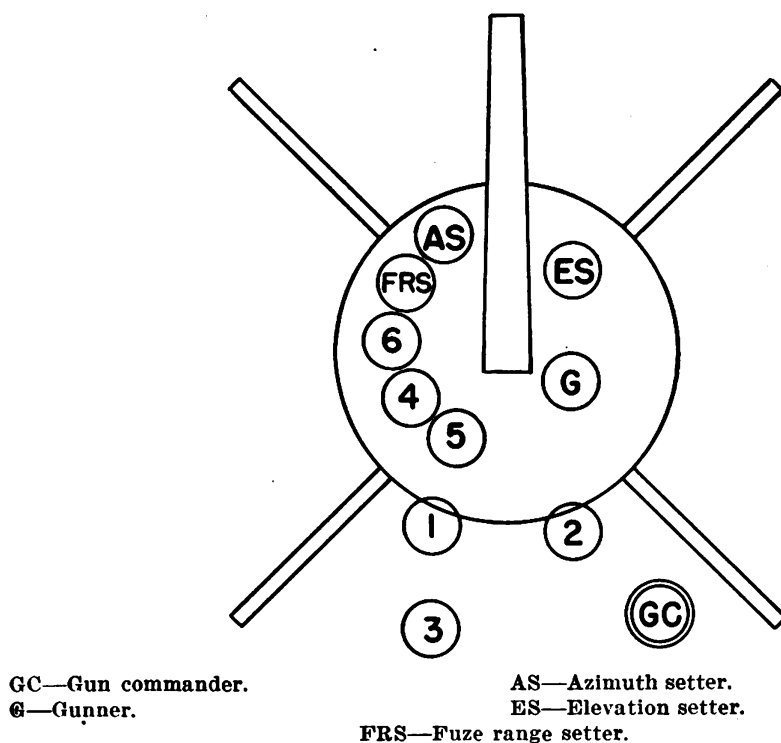

FIGURE 4.—Posts for 3-inch gun section.
- Q. What are the posts of the gun section? A. See figure 4.